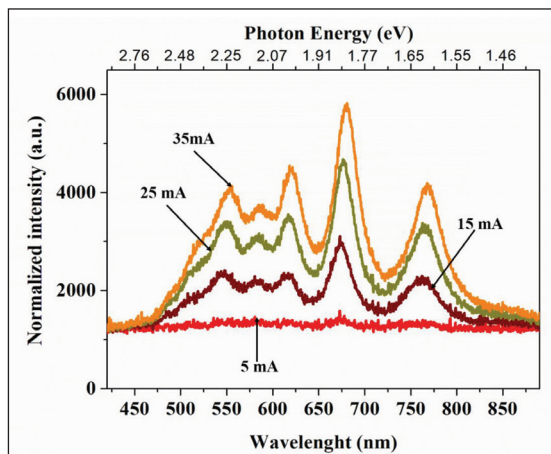

Fig. 4:
it is obtained that the external quantum efficiency (QE) is of the order of 10^{-7} , presenting higher emission efficiency, using carrier-injection engineering with revised bipolar-junction device structure, shown in Fig. 4.